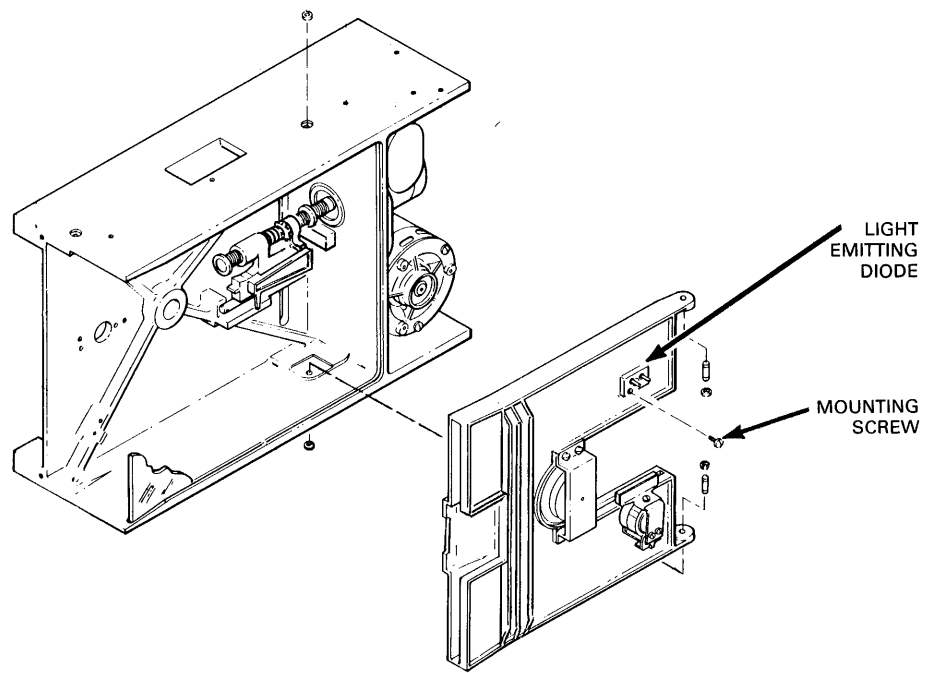

Figure 5-30. Light Emitting Diode Removal and Replacement
3. Remove two mounting screws (Figure 5-30).
1. Insert diode leads through baseplate access hole (Figure 5-30).